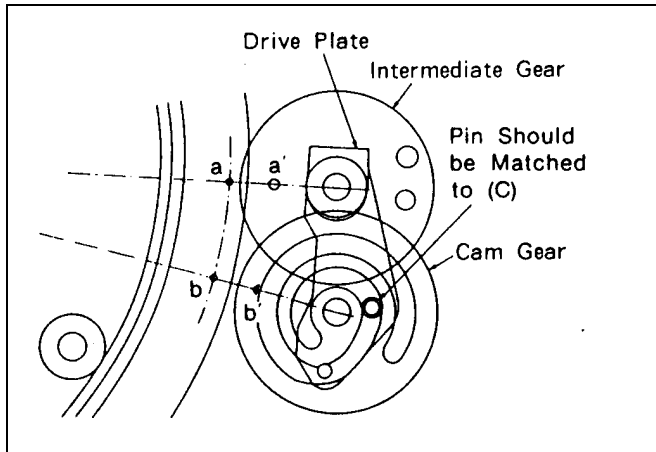

Figure 7-19-4 Cam Gear Phase Adjustment
1. To install Intermediate Gear and Cam Gear, be sure the holes a and b match with the holes a' of the Intermediate Gear and b' of the Cam Gear as shown in figure 7-19-4.
2. To install Drive Plate, be sure the pin of the Drive Plate matches with the groove position (C) of Cam Gear as shown in figure 7-19-4.